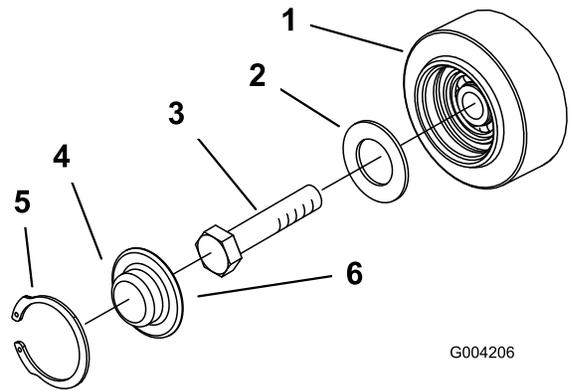

Figure 43
3. Remove the snap ring and cap from a road wheel (Figure 43).
4. Check the grease under the cap and around the gasket (Figure 43). If it is dirty, gritty, or depleted, clean out all of the grease, replace the gasket, and add new grease.
6. Place the greased road wheel cap over the bolt head (Figure 43).
7. Secure the road wheel cap with the snap ring (Figure 43).